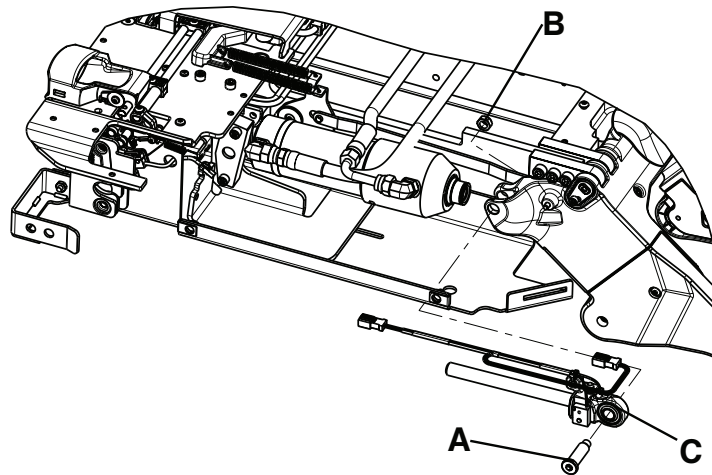
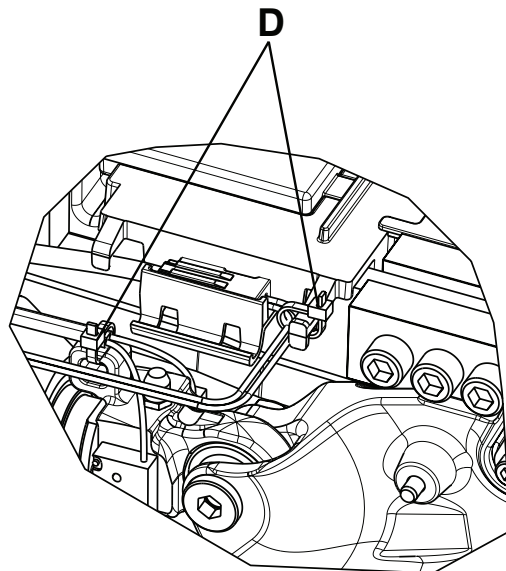

Figure 34 – Hydraulic cylinder assembly
Figure 35 – Cable ties locations
4. Using a 1/4" hex wrench and a 1/2" combination wrench, remove the end cap cylinder pin (A) and nut (B) (Figure 34). Save the end cap cylinder pin and nut.
5. Using diagonal pliers, cut the cable ties (D) (Figure 35) that secure the hydraulic cylinder rod end assembly (C) cable to the plastic cover (Figure 34).
6. Lift the cylinder while you remove the hydraulic cylinder rod end assembly (C) (Figure 34). Save the hydraulic cylinder rod end assembly.